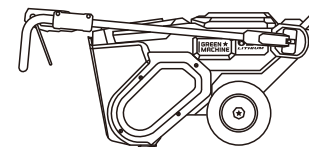

Fig. 2A
1. Place the folded snow blower on the flat floor. (Fig. 2A)